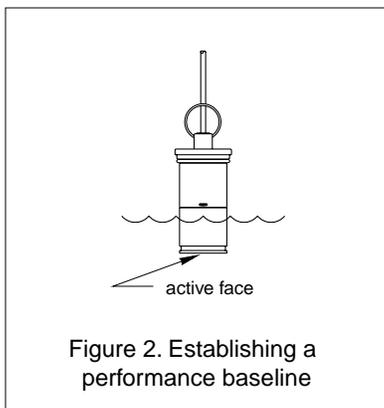

Figure 2. Establishing a performance baseline
3. Hold the transducer insert over the side of the boat with the active face submerged in the water (see Figure 2). *Be sure to keep the active face of the transducer parallel to the surface of the water.*